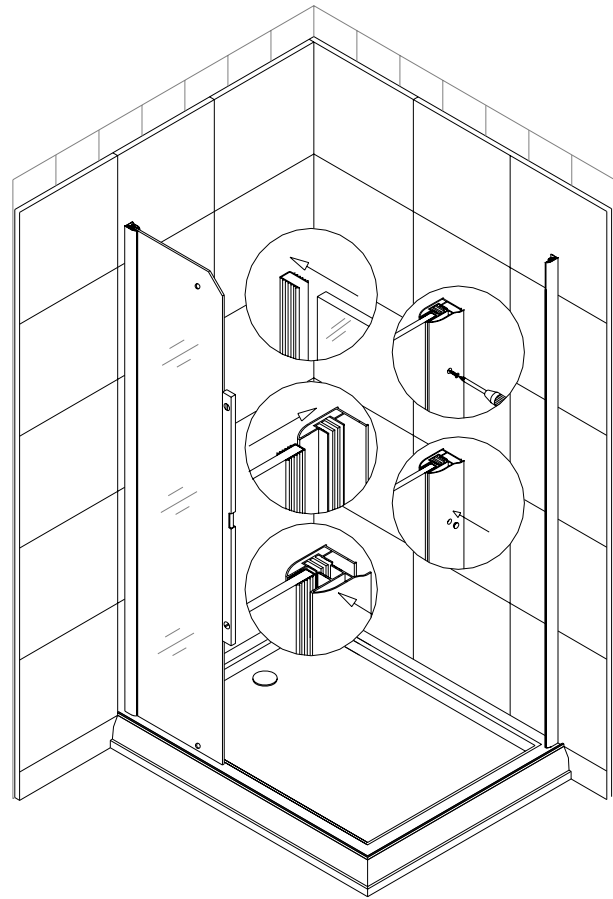

Fig 2
2. Have out the **Narrow Stationary Glass panel (2)**. Locate small holes on the stationary glass. These holes must face towards the door. Place a **U-Shape Seal Gasket (11)** on the long (vertical) side of the glass panel; fit the glass with the gasket into the position (fig 2).
3. Attach the second part of **wall profile (1)** to the **L-shape profile** using **4X16 flat head self-tapping screw (13)** and fasten tight the profile so to secure the position of the stationary glass. Cover the holes with **Decorative cover (14)** (fig 2).